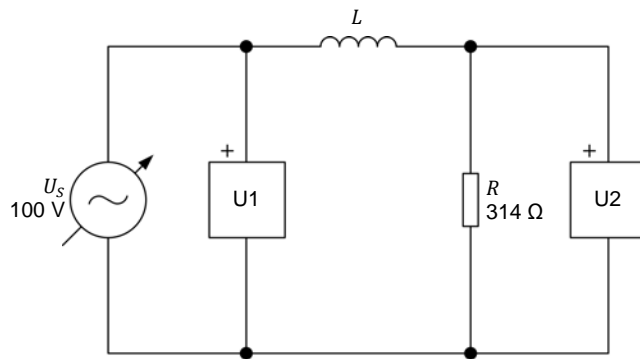

Figure 1-15. AC circuit with a resistor and an inductor.
4. Set up the circuit shown in Figure 1-15. This circuit contains a resistor R and an inductor L . Inductors are studied in the next unit of this manual.
The value of inductor L in the circuit of Figure 1-15 is referred to as the inductance and is expressed in henries (H). The inductance value to be used is 1.00 H.